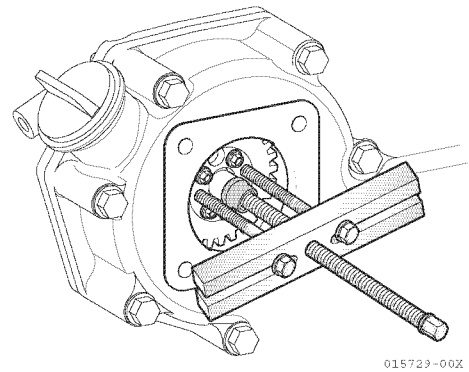

Figure 6-60
- Disconnect the injection pump from drive gear as an assembly using an appropriate two-bolt gear puller (**Figure 6-60**).